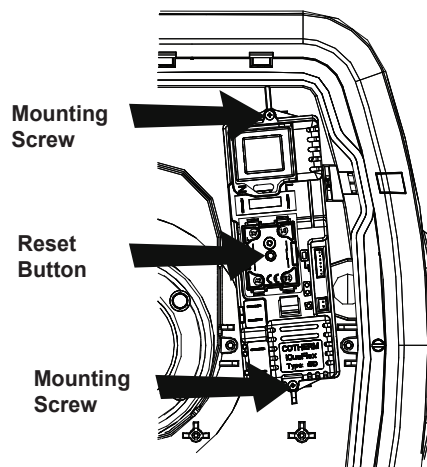

Figure 14: iBD removal
- ▶ Unscrew the two securing screws that secure the iBD to the casing, (see fig 14 below).
- ▶ Screw the two securing screws to secure the iBD to the casing, (see fig 14).
The product detects that the safety cut out has opened the electric contacts removing power from the heating circuit. The origin is likely to be an unexpected overheating condition in the water tank. Flush the tank through with cold water to cool it down before resetting (See Fig 14 page 27).